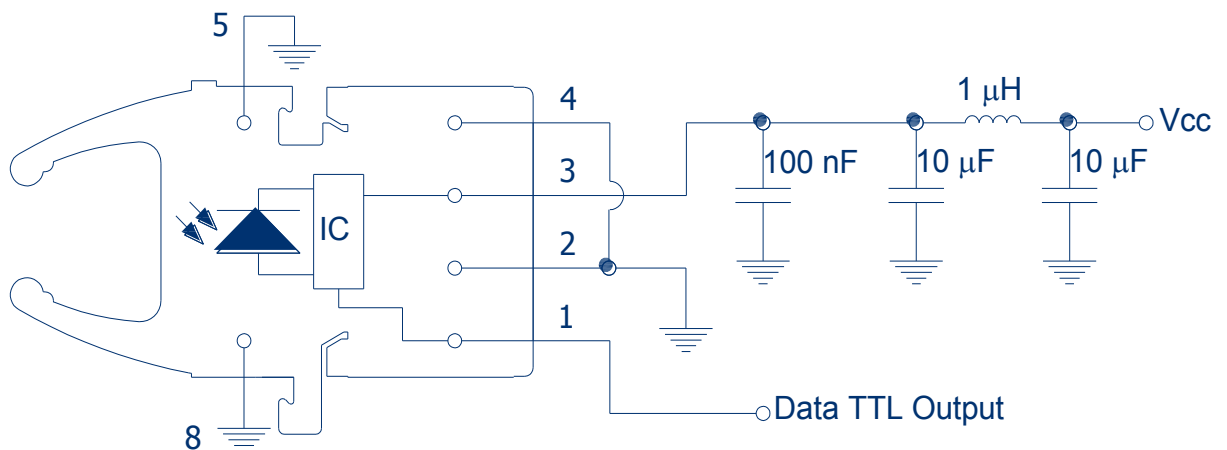

FIGURE 2
9. Pin 4 is electrically isolated internally. Pin 4 may be externally connected to pin 1 for board layout compatibility with existing designs. Otherwise it is recommended pin 4 be grounded as in Figure 2